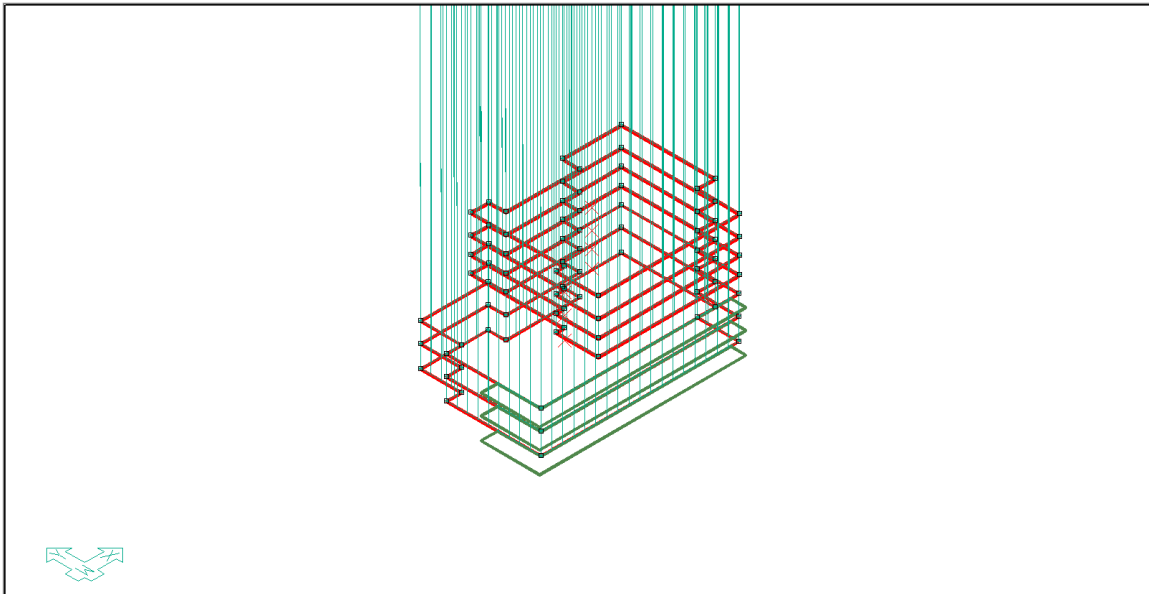

FIGURE 8-10
- The user will now see green lines representing the projection of the cladding load as shown in **FIGURE 8-10**. We have applied a 400plf load to each of the levels main slab's edges.